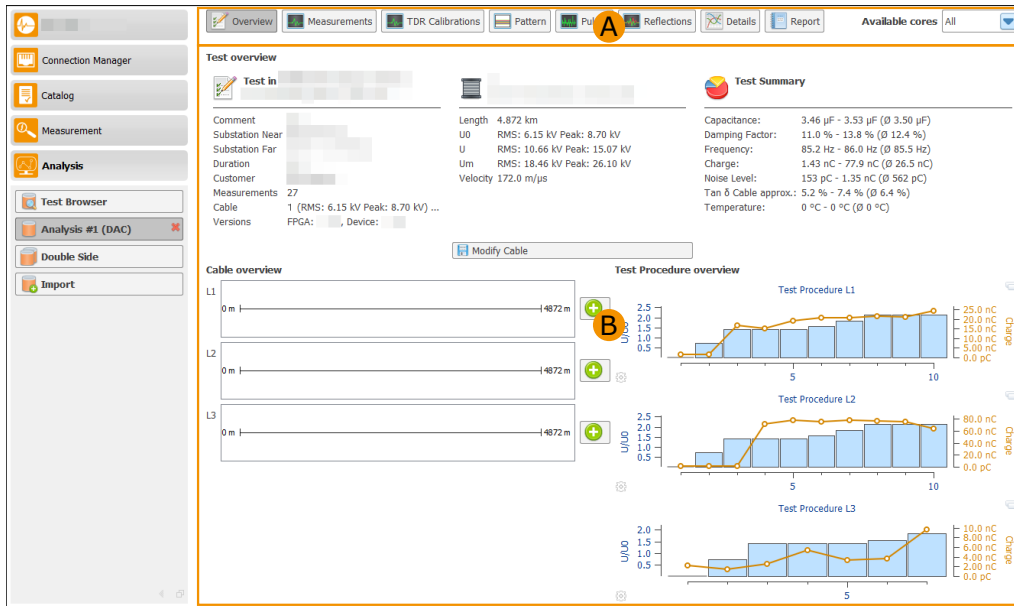
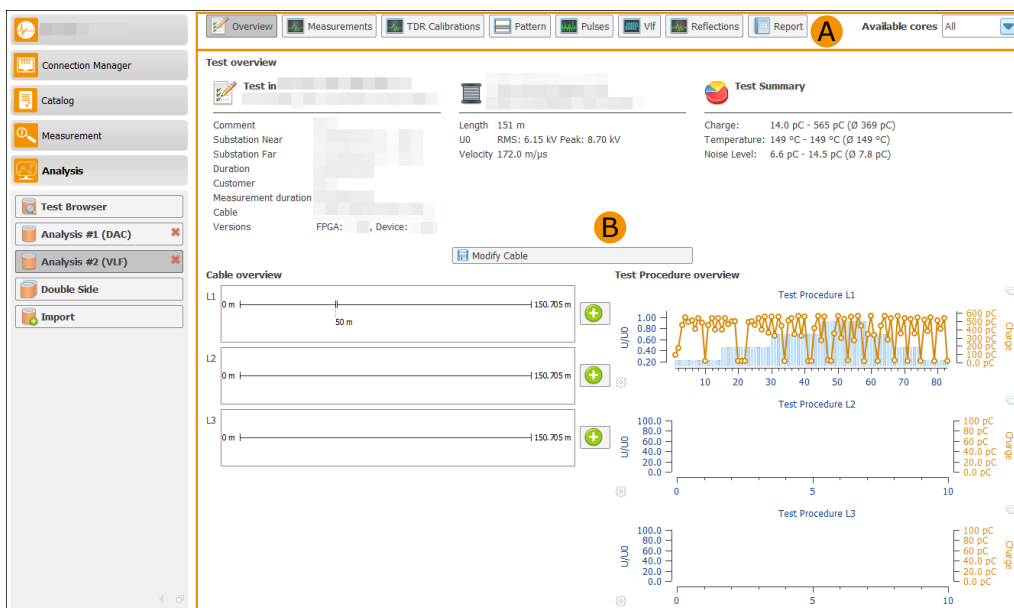

Figure 8.5: Analysis Overview (DAC test)
Figure 8.6: Analysis Overview (VLF test)
The analysis overview (cf. Figure 8.5) displays the general information of the selected test. In Figure 8.6 the analysis interface for a VLF test is displayed. The analysis surface for all testing types is divided into two parts. The upper section (A) contains the buttons for the individual analysis surfaces. The current phase of the cable can also be selected in this area. The selection list on the right side of this area is available for selecting the phase of the cable. The cable determines the number of possible choices. If it is a multi-conductor cable, the individual phases  $L1$  to  $L3$ , as well as the selection for all phases ( $All$ ) are available. The respective phase selection directly influences the display of the individual analysis views. The A area is included in each individual analysis interface. The lower section B displays the correspondingly selected analysis view and is toggled by clicking the buttons.